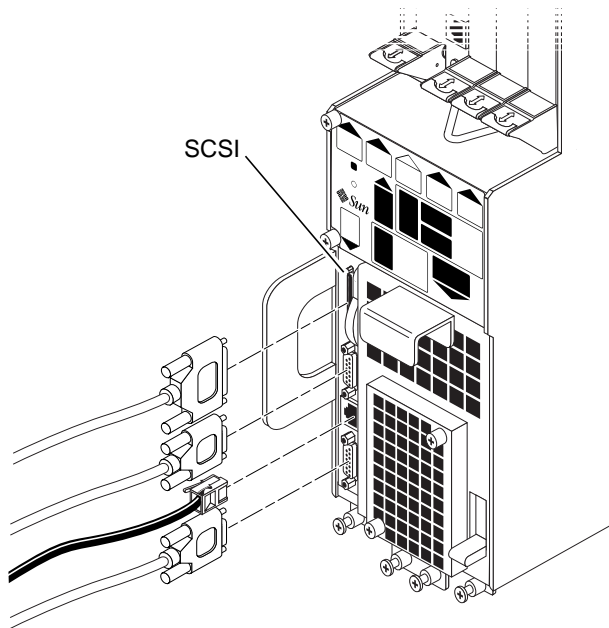
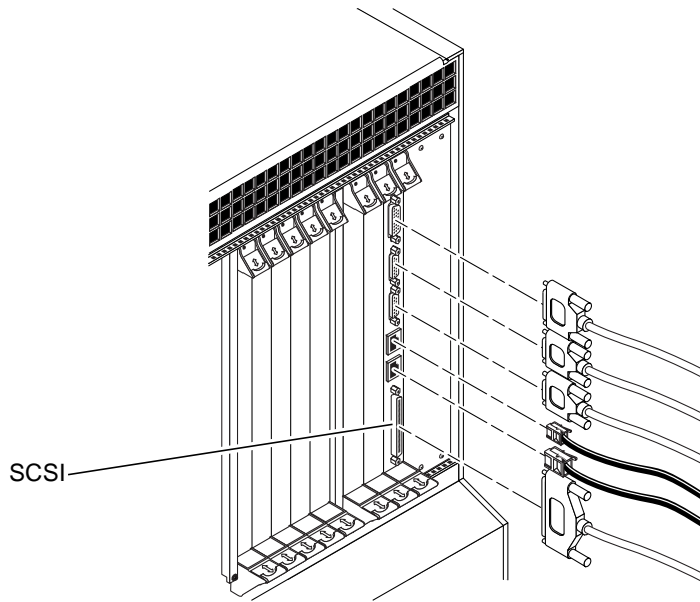
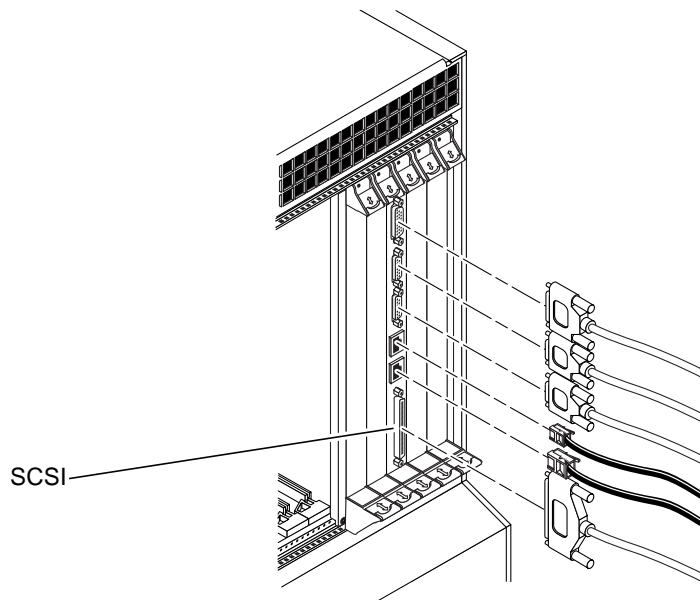

FIGURE A-2 Locating the SCSI Port on the CPU Front Transition Card (Netra ct 400 Server)
FIGURE A-3 Connectors on the CPU Rear Transition Card (Netra ct 800 Server)
FIGURE A-4 Connectors on the CPU Rear Transition Card (Netra ct 400 Server)
- If you have a *front-access model* Netra ct 400 server, the SCSI port is located on the CPU front transition card to the left of the power supply (FIGURE A-2).
- If you have a *rear-access model* of either the Netra ct 800 server or the Netra ct 400 server, the SCSI port is located on the CPU rear transition card installed at the rear of the chassis in I/O slot 1 for the Netra ct 800 server or I/O slot 3 for the Netra ct 400 server. FIGURE A-3 shows the locations of the connectors on the CPU rear transition card for the Netra ct 800 server and FIGURE A-4 shows the locations of the connectors on the CPU rear transition card for the Netra ct 400 server. The CPU rear transition card is the same for both the Netra ct 800 server and the Netra ct 400 server; only the location in the rear card cage differs.
- If you are connecting an external SCSI device to the CPU front transition card for the Netra ct 400 server or the CPU rear transition card for either Netra ct server, connect the VHDC side of the VHDC-to-SCSI 3 adapter cable to the SCSI port on the transition card (see FIGURE A-2, FIGURE A-3 or FIGURE A-4).